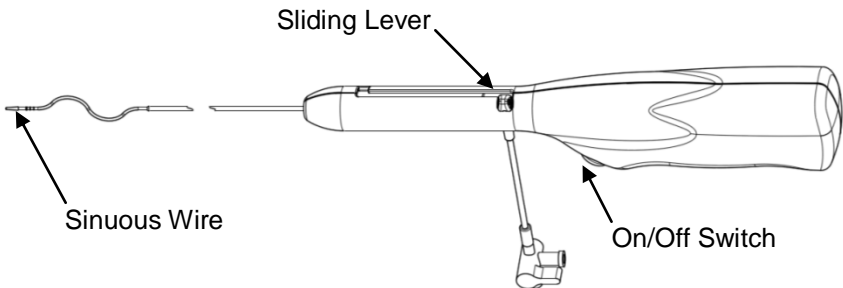

Figure 2
2. Remove the CLEANER15™ Rotational Thrombectomy System from the package. Depress the ON/OFF switch to ensure that the sinuous wire spins freely (refer to Figure 2). Release the switch to stop the rotator. **Precaution: Do not use the device if the rotator does not activate immediately when the switch is depressed, and deactivate immediately when the switch is released.**